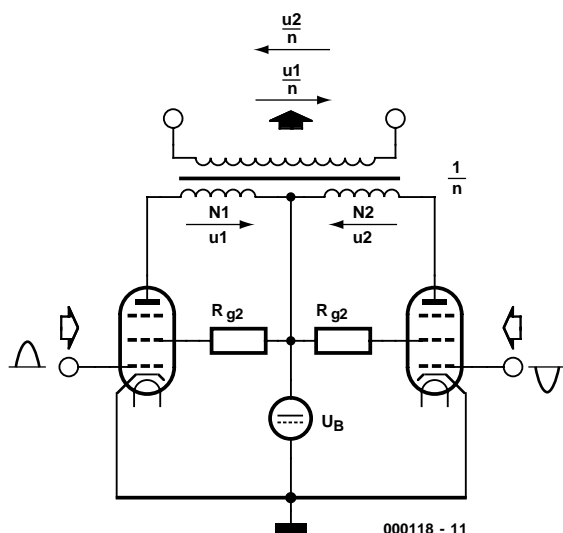
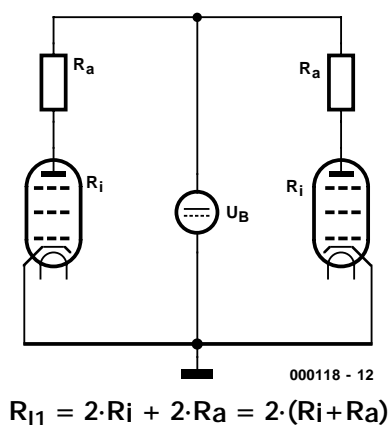

Figure 1. Basic circuit of a conventional Class AB push-pull output stage.
Figure 2. The ac equivalent circuit of Figure 1.
In order to enable you to better understand the PPP technique, we first have to delve into a bit of theory. The schematic diagram of **Figure 1** shows the basic circuit of a classical Class AB push-pull circuit. Each of the control grids of the power valves is driven by a half-wave signal from a paraphase circuit. This is shown symbolically in the figure; in practice the two valves would naturally be driven by positive half-wave signals, since otherwise the circuit would not work. Here the left-hand valve is responsible for the positive half-cycle and the right-hand valve for the negative half-cycle. The output transformer combines the two half-cycles to form the complete sine wave. The figure shows the polarities of the voltages that appear in opposite phases across two halves of the primary transformer winding (N1 and N2). They generate a voltage on the secondary side of the transformer that is reduced by the transformer ratio  $n$ . From the figure, you can also see the response of the power stage to hum components in the supply voltage. If a hum voltage is superimposed on the supply voltage  $U_B$ , it will be fed into the two windings N1 and N2 in equal measure. If the circuit on the primary side of the transformer is completely symmetric, which means that the windings, output valves and quiescent currents are identical, the hum voltages cancel each other out due to the antiphase feed into the transformer. Unfortunately, perfect symmetry cannot be achieved in practice, so  $U_B$  must be adequately filtered.
**Figure 2** shows the ac equivalent circuit of the basic circuit of Figure 1. The power supply  $U_B$  represents a short circuit for ac signals. The ac internal resistance is given by the series connection of the internal resistances of the two valves and the two windings N1 and N2 with their equivalent resistances  $R_a$ . Both output valves are operated with a non-zero quiescent current, in order to avoid cut-off distortion when the sine wave signal passes through zero.